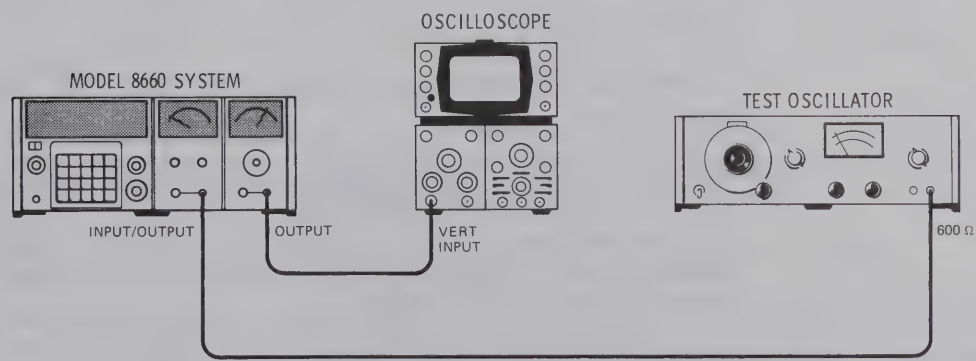

Figure 4-4. AM Input Level and Rate Test Setup
3. Connect the equipment as shown in Figure 4-4.